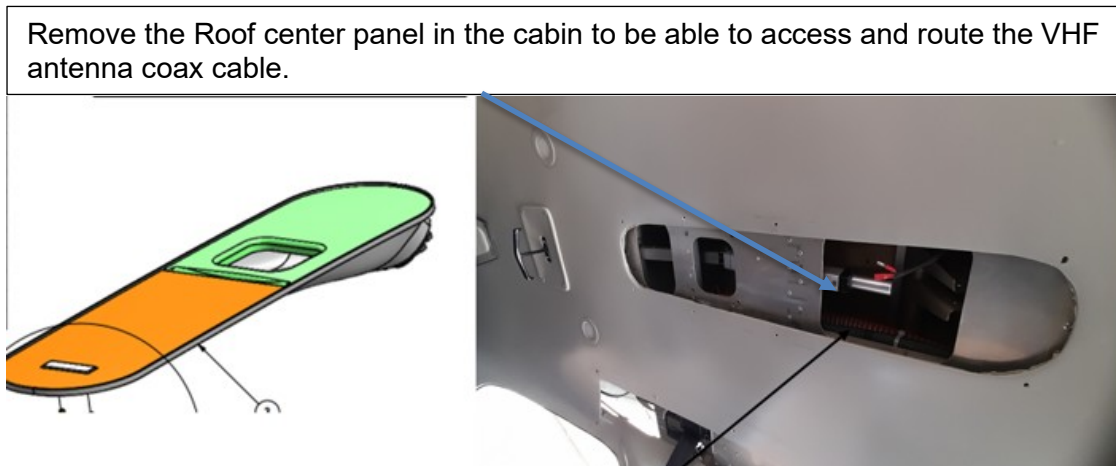

Figure 33: The roof centre panel to be removed to access the top skin.
- Step 4: Route the cable through the space in the centre roof panel inside the cabin as shown in Figure 33.